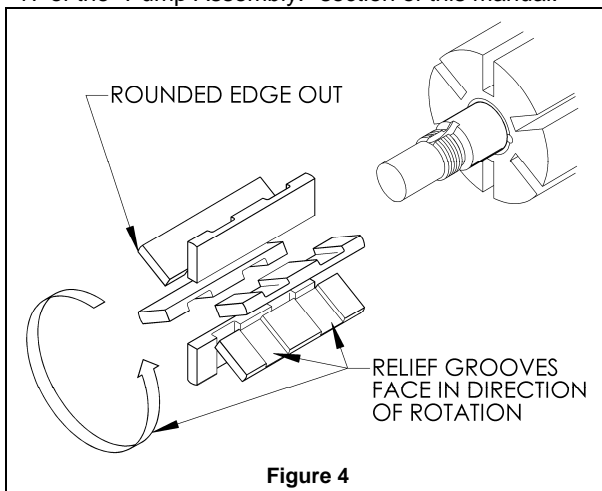

Figure 4
3. Install a new vane, ensuring that the rounded edge is UP, and the relief grooves are facing towards the direction of rotation. See Figure 4.
8. Inspect the vanes (14) and push rods (77) for wear and damage, and replace as follows:
- a. Partially install the non-driven end of the rotor and shaft (13) into the open side of the pump cylinder.
- b. Leave part of the rotor outside of the cylinder so that the bottom vanes can be installed and held in place as the push rods are installed in the push rod holes of the rotor. Insert the new vanes into the rotor slots with the rounded edges outward, and the vane relief grooves facing TOWARDS the direction of rotation. See Figure 4.
- c. After the bottom vanes (14) and push rods (77) are installed, insert the rotor and shaft (13) fully into the cylinder (12).
9. Install the inboard head (20), mechanical seal, and bearing as instructed in steps 2 through 7. Apply a thin coating of motor oil on the inboard shaft to aid installation.